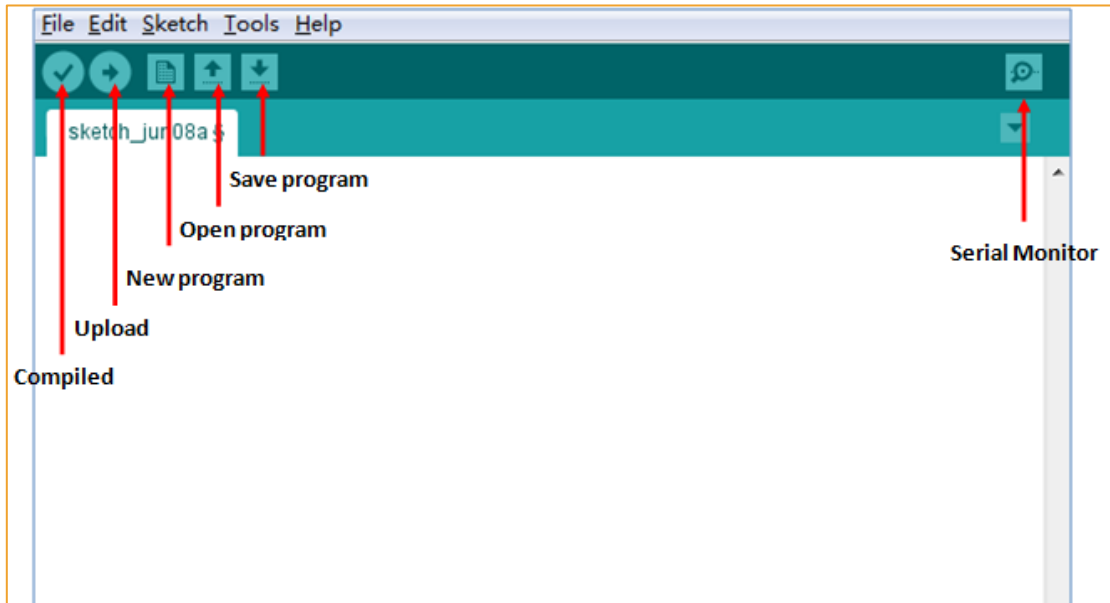

Figure 2.1.12 Arduino IDE Interface
1. The first thing you can see is the interface of the following figure. The functions of the toolbar buttons are "Compile" - "Upload" - "New Program" - "Open Program" - "Save Program" - "Serial Monitor", as shown in Figure 2.1.12.